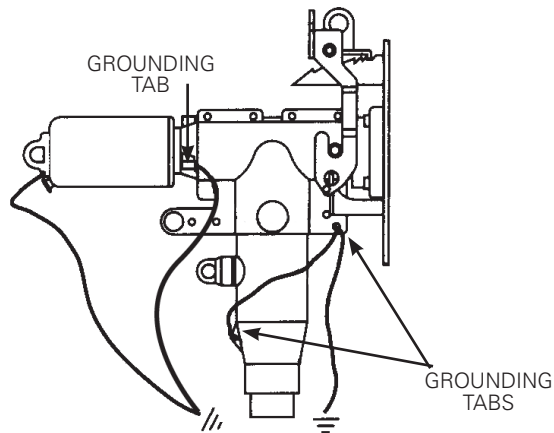

Figure 15. Line illustration of grounding.
- Connect one strand of cable concentric neutral to shroud grounding tab. Connect remainder of concentric neutral wires to system ground. (Refer to Figure 15.)